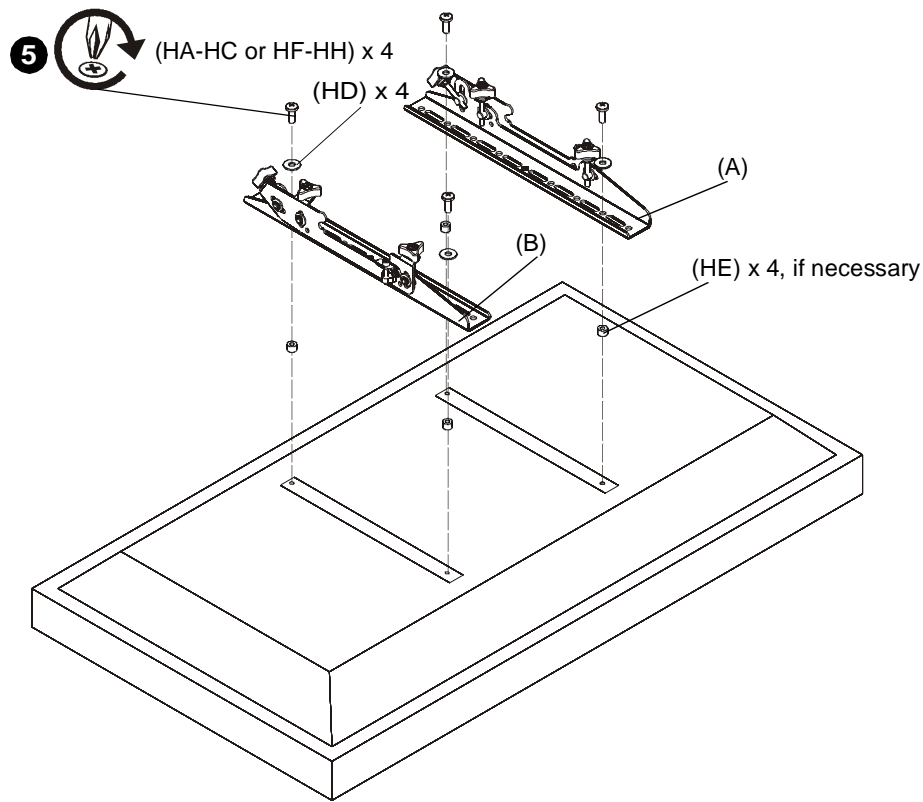

Figure 8
2. Select screw *diameter* by examining hardware (HA-HC and HF-HH) (6mm or 8mm) and comparing with mounting holes on display. (See Figure 8)
- If mounting holes are recessed, or if protrusions prevent brackets (A and B) from laying flat, then spacers (HE) must be used.
4. Select screw *length*: (See Figure 8)
- Using your hand, insert **SHORTEST** length screw of selected diameter (HA or HF) through 1/4" washer (HD), bracket (A or B), selected spacer (HE, if required), into display mounting hole. Do **NOT** thread screw into hole at this time.
5. Use selected screws (HA-HC or HF-HH), washers (HD) and spacers (HE), if necessary, to connect interface brackets (A and B) to back of display. Make sure diamond on interface brackets is even with center of display. (See Figure 8)